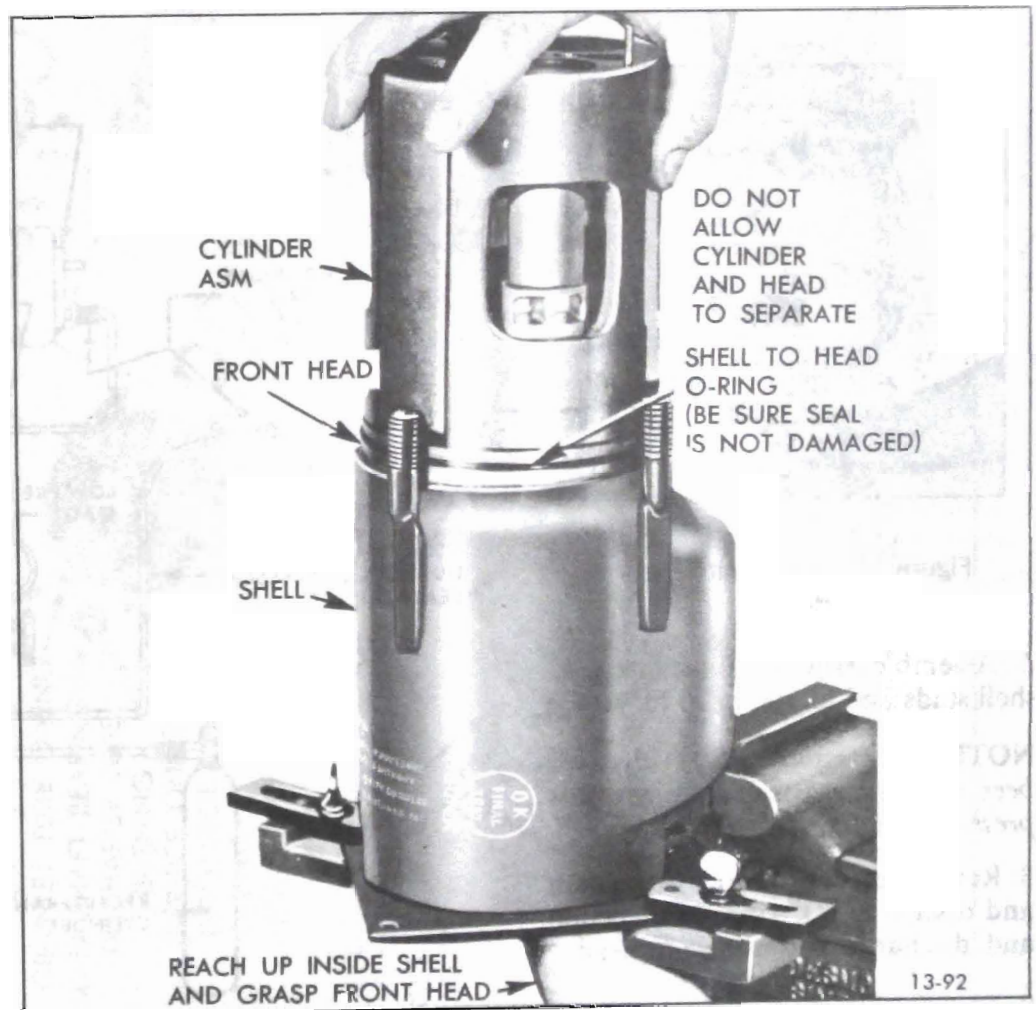

Figure 13-118 Installing Front Head and Cylinder Assembly in Shell
7. Reassemble, as a unit, cylinder assembly and front head into the shell (see Figure 13-118).